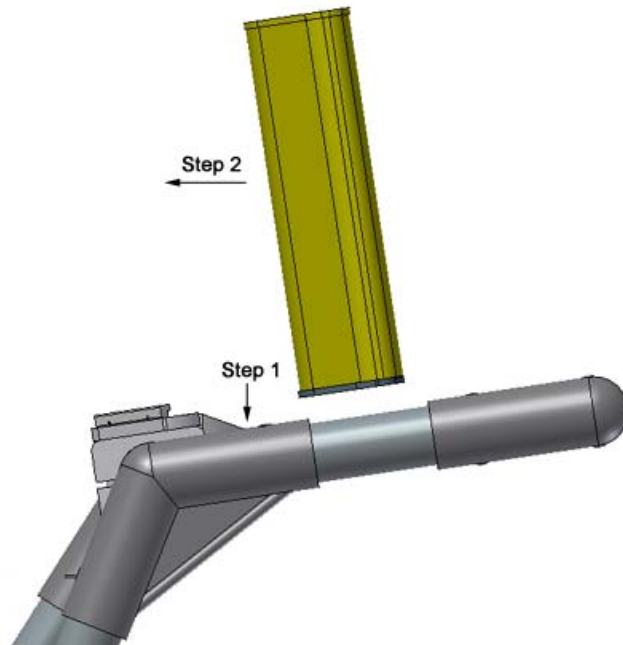

Figure 2-8: Attaching the digital video logger (DVL). Step 1: Depress flexible clip. Step 2: Slide DVL onto shelf.
4. Attach the Digital Video Logger (DVL): The bottom of the Digital Video Logger is designed to slide onto the support shelf attached to the Smart Cart (Figure 2-8). Line up the bottom of the Digital Video Logger with the shelf and slide it back onto the shelf. Push the Digital Video Logger back far enough so that the flexible clip on the front of the shelf catches and holds the Digital Video Logger firmly in place. Wiggle the DVL to make sure it is firmly snapped in before letting go of the unit. (To remove the Digital Video Logger from the Smart Cart, this clip must be flexed downward as the DVL is slid forward off of the shelf.
When collecting data with a Smart System, the DVL is powered by the system battery. It is possible to detach the DVL from the Smart Cart (see Figure 2-8) or the Smart Handle system and use it away from the system to review, print or download data. There are 2 ways to power the DVL away from the Smart System and both involve using optional accessories.